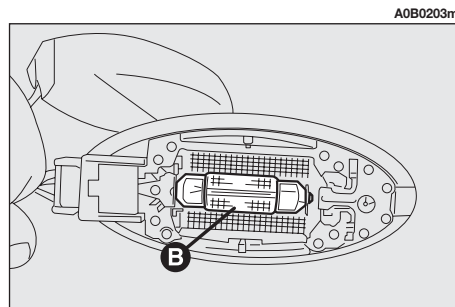

fig. 55
- Remove the bulb (**B-fig. 55**) pulling outwards and releasing it from the side contacts.